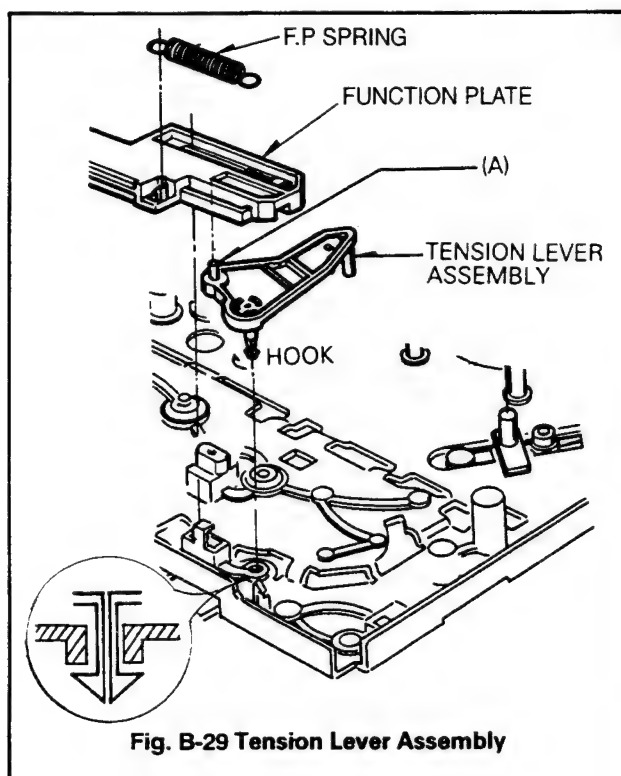

Fig. B-29 Tension Lever Assembly
- 1) When reassembling, the groove of Lower part of Function Plate should be aligned with the shaft of Tension Lever Assembly (Fig. B-29).
## 29. Tension Lever Assembly (Fig. B-29)